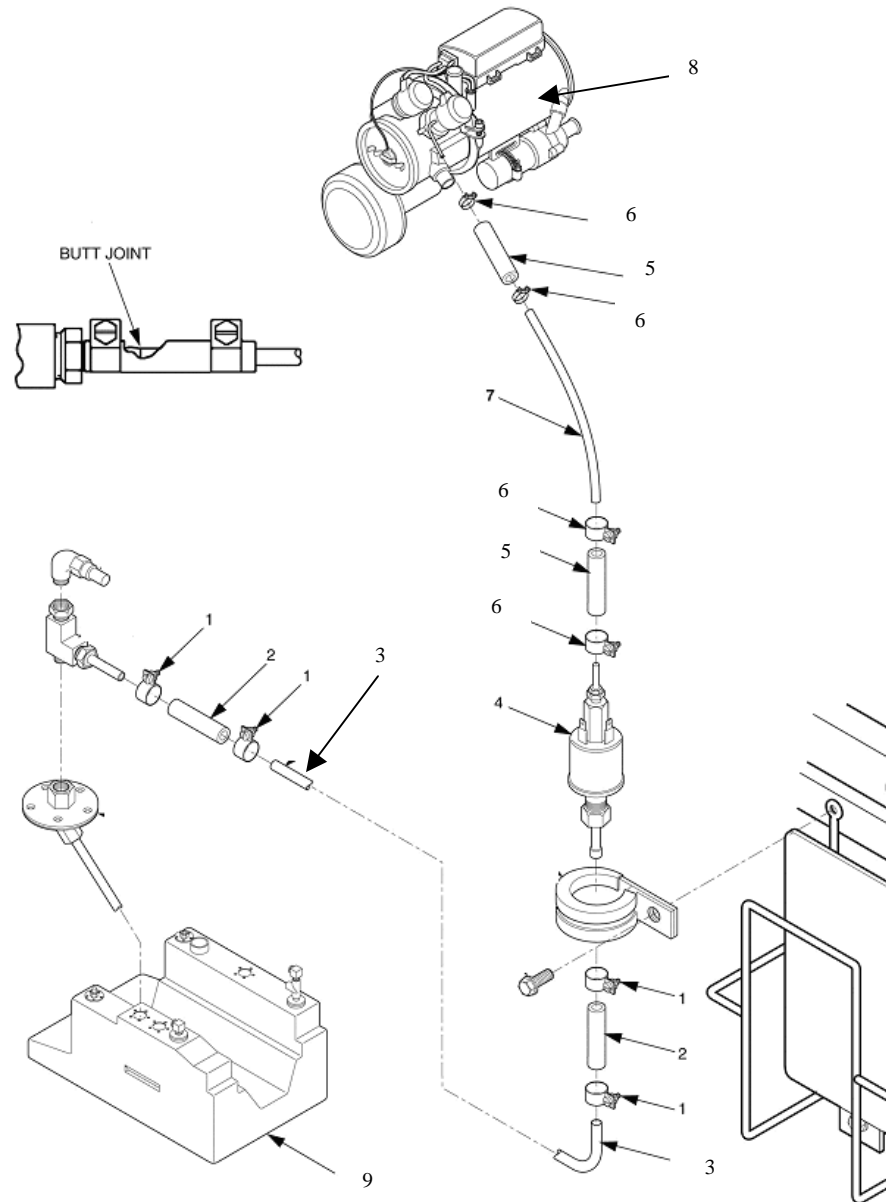

Figure 4-29. Fuel Line Maintenance.
1. Loosen screw clamps (1), Figure 4-29, to remove butt splices (2) and fuel line (3) between primary fuel tank (9), and fuel pump (4). Drain any fuel from line into a suitable container.
2. Loosen screw clamps (6) to remove butt splices (5) and fuel line (7) between fuel pump (4) and heater (8).